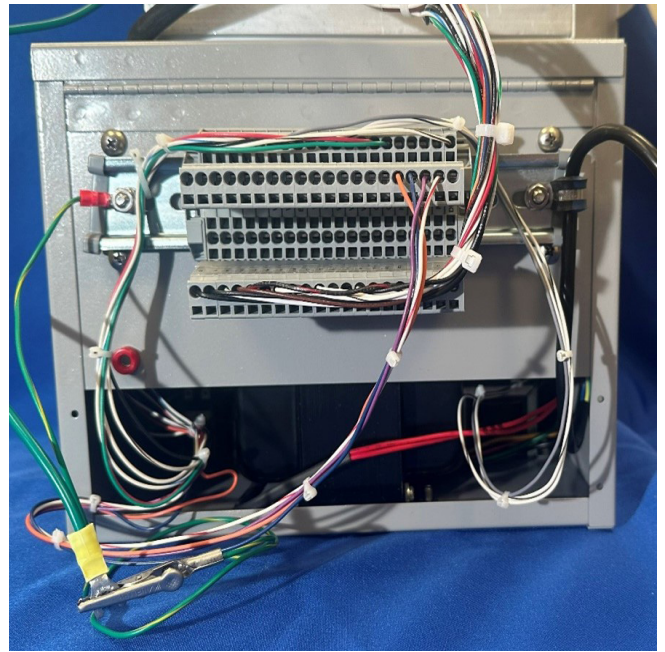

Figure 4. Inserting control wire harness connector into the simulator terminal board receptacle
2. Insert control wire harness connector into the terminal board receptacle. See Figure 4. The connector can be plugged into either the top or bottom receptacle. Make sure the labels on the connector match with the labels on the receptacle.